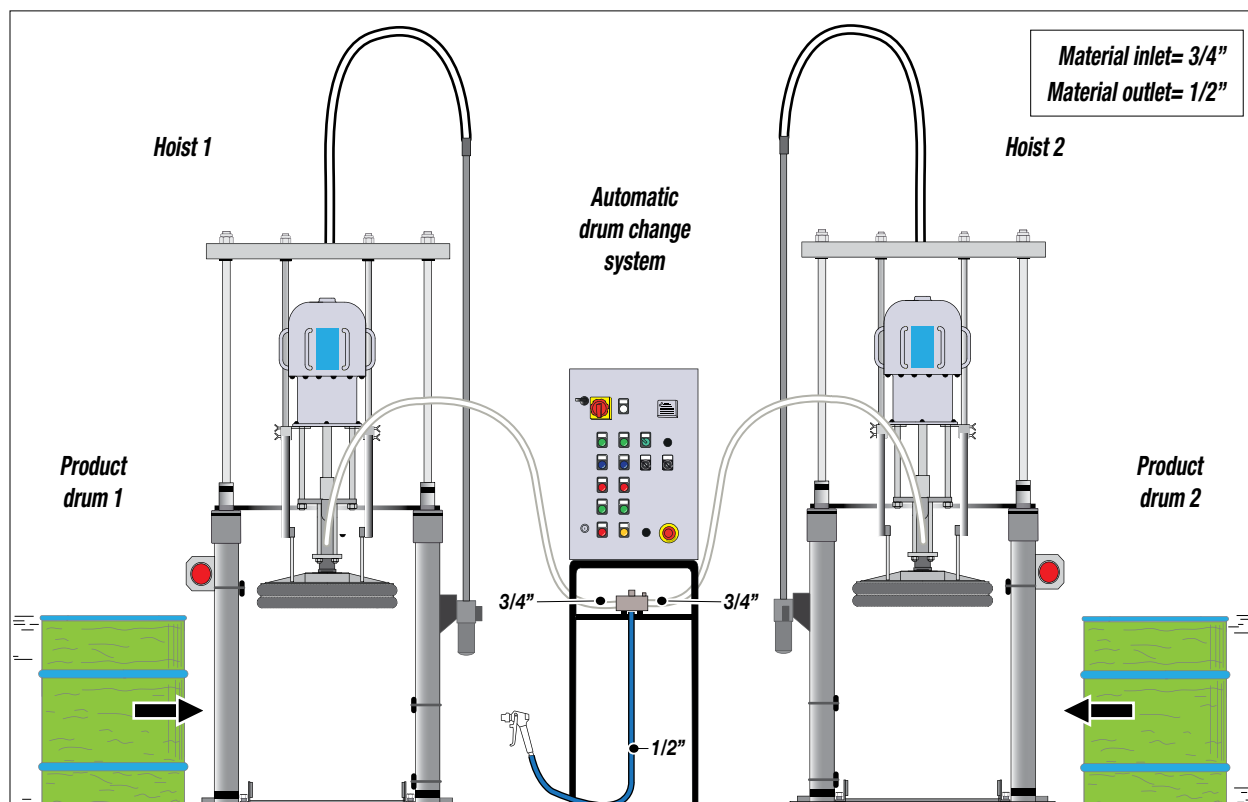

Fig. 1C
- The operator first of all prepare the drums for the hoist 1 and hoist 2 containing the product to be used for dosing in the system (see Fig. 1C) and loading onto the hoists.